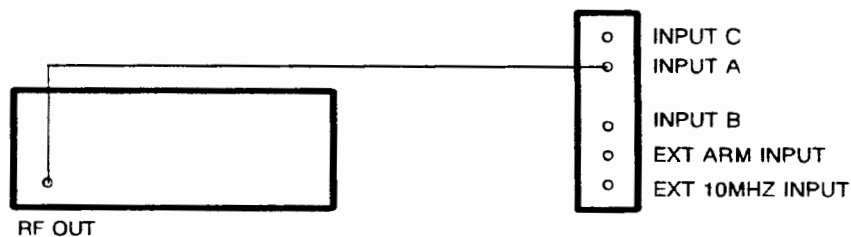

Figure 5-13. Input A X10 Attenuator Check Configuration
2. Connect the counter to the signal generator as shown in Figure 5-13.